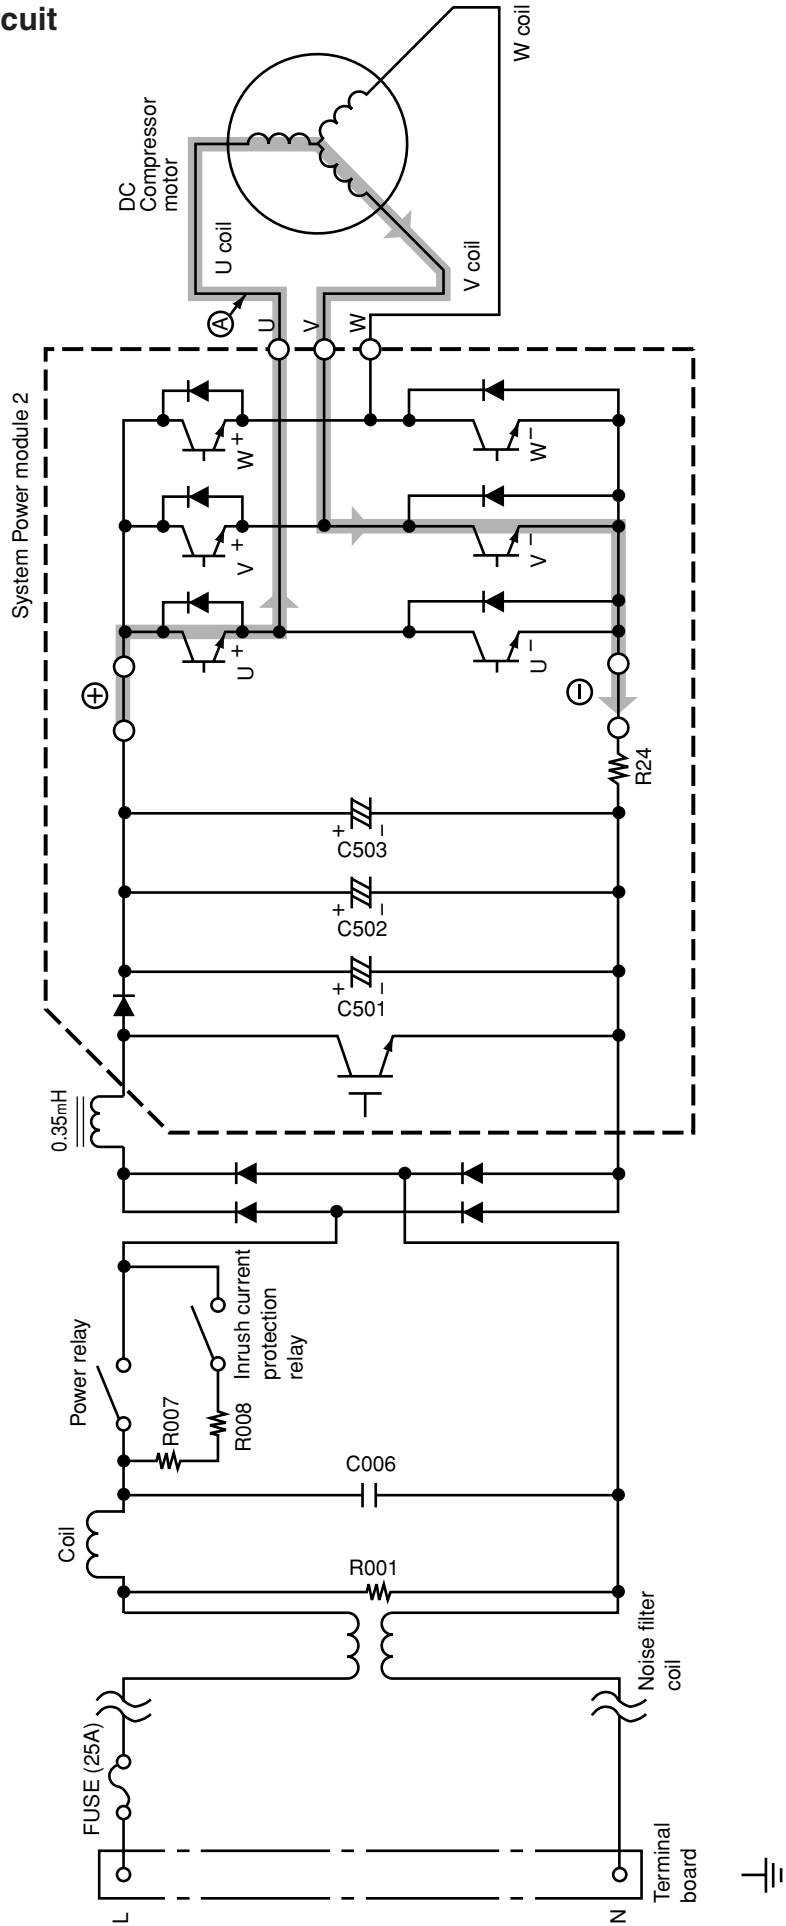
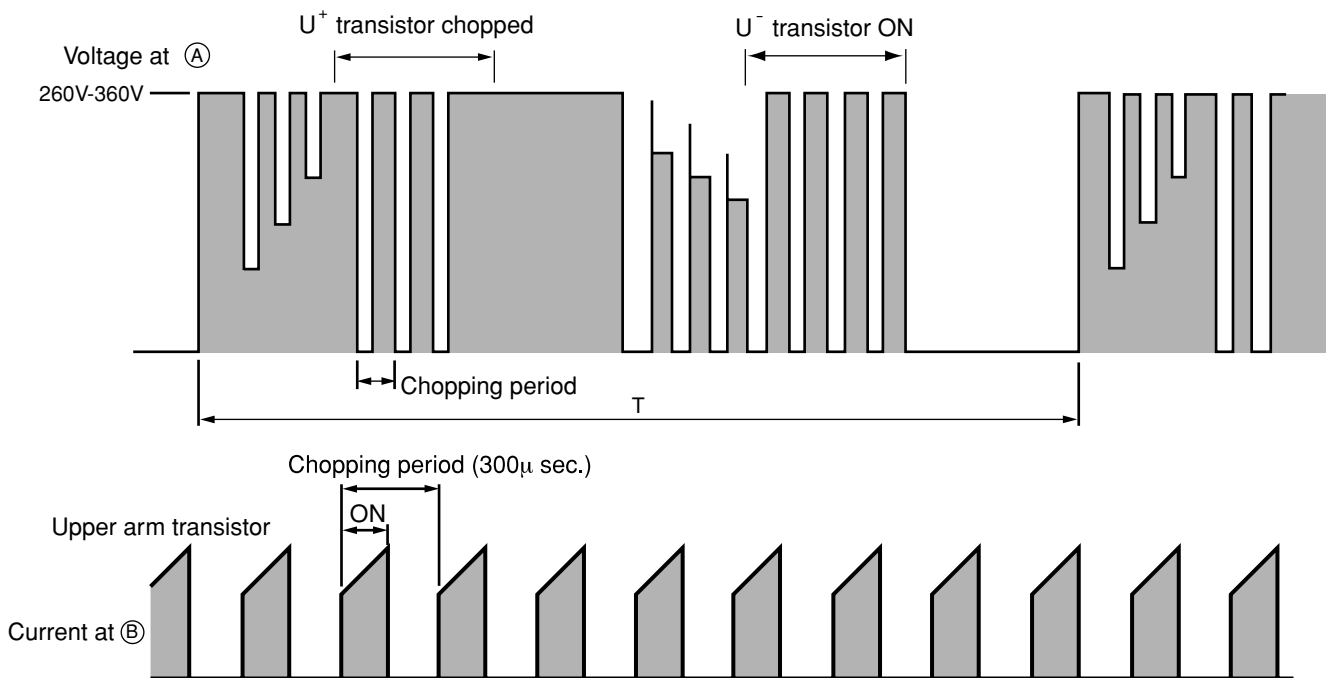

Fig. 3-1 Power module circuit (U⁺ is ON, V⁻ is ON)
Fig. 3-3 Voltage waveform at each point
- Fig. 3-1 shows the system power module and its peripheral circuit. The three transistors on the positive ⊕ side are called the upper arm, and the three transistors on the negative ⊖ side are called the lower arm.
- Fig. 3-3 shows voltage waveform at each point shown in Figs. 3-1 and 3-4. First half of upper arm is chopper, second half is ON, and first half of lower arm is chopper, second half is ON.
- When power is supplied U⁺ → U⁻, because of that U⁺ is chopped, current flows as shown below; (B)
- (1) When U⁺ transistor is ON: U⁺ transistor → U coil → V coil → V⁻ transistor → DC current detection resistor → Point (B) (Fig. 3-1)
- Since current flows at point B only when U⁺ transistor is ON, the current waveform at point B becomes intermittent waveform as shown in Fig. 3-3. Since current at point B is approximately proportional to the input current of the air conditioner, input current is controlled by using DC current (I_d) detection resistor.